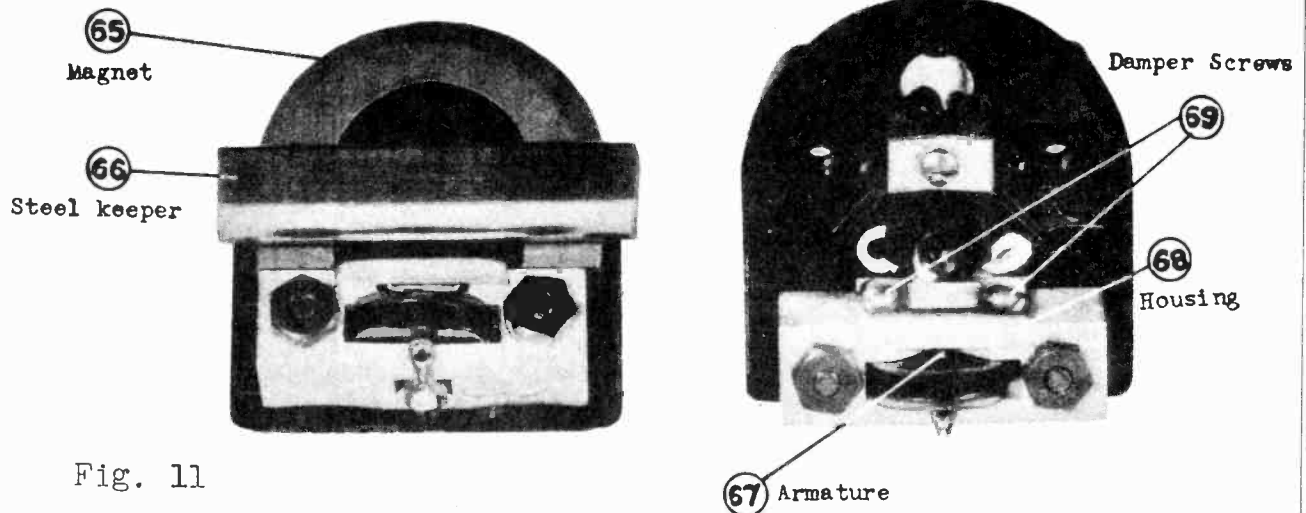

Fig. 11
Remove warning label and magnet-holding strap. Now put a fairly stout steel keeper (66) across the magnet (65) as shown in Fig. 11. The magnet may now be removed from the cutting head, taking care that the keeper remains across the magnet. This is important in the preservation of the magnet strength.